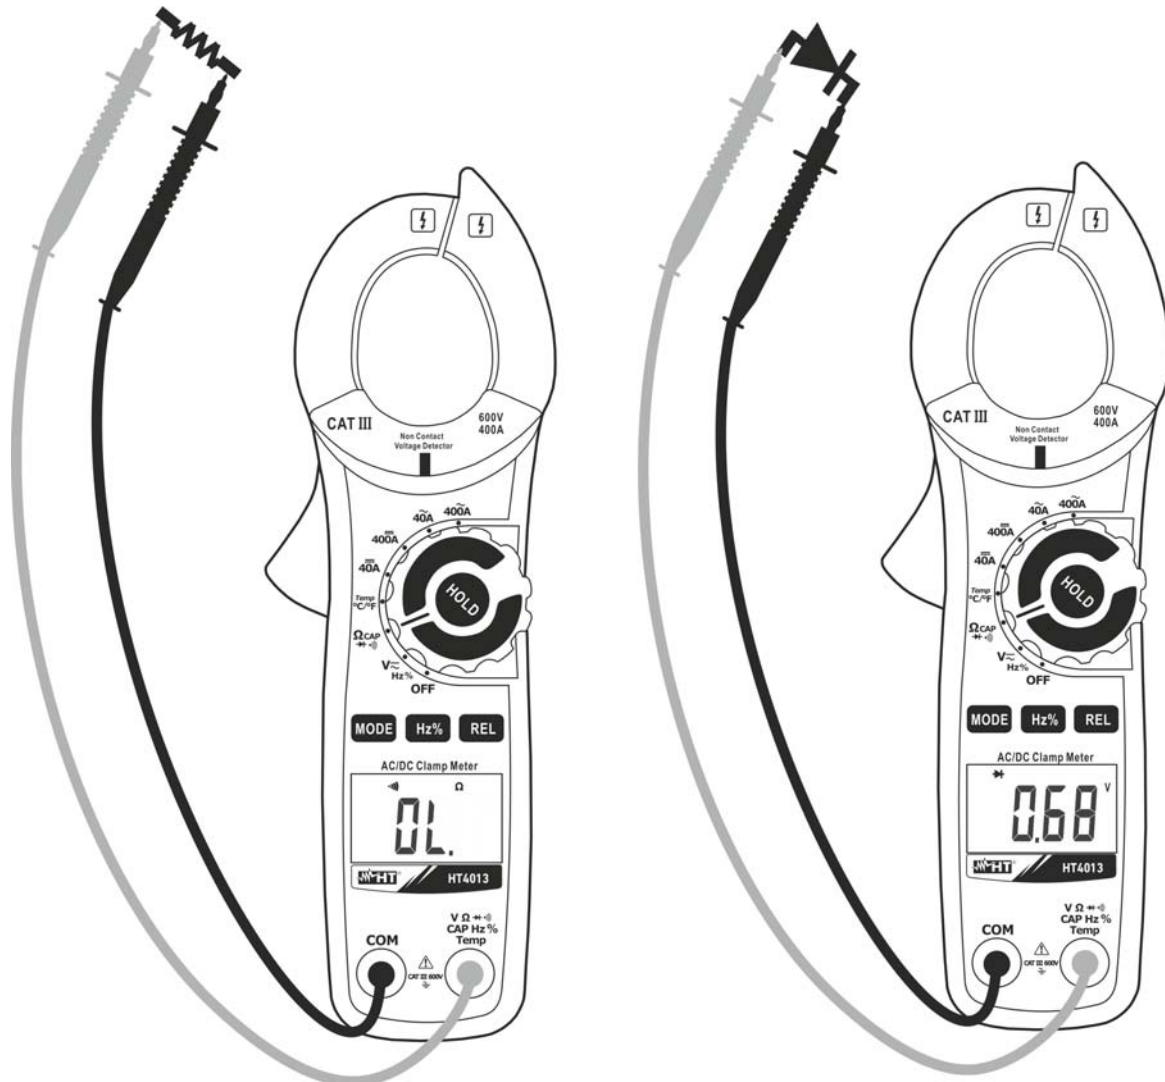

Fig. 7: Use of the clamp for continuity test and diode test
3. Insert the red cable into input terminal **V Ω CAPHz%Temp** and the black cable into input terminal **COM** and carry out the continuity test of the object to be measured (see Fig. 7– left side). A buzzer sounds when the measured value of resistance is lower than 30Ω
5. Connect the red lead to the anode of the diode and the black lead to the cathode in case direct polarization measurement is carried out (see Fig. 7 – right side). Invert the position of the leads in case reverse polarization measurement is carried out.